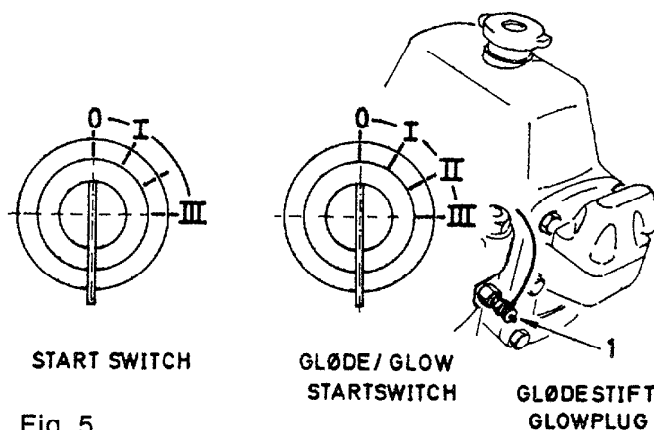

Fig. 5
3. 0 KEY: Insert (or remove) (fig. 5.)